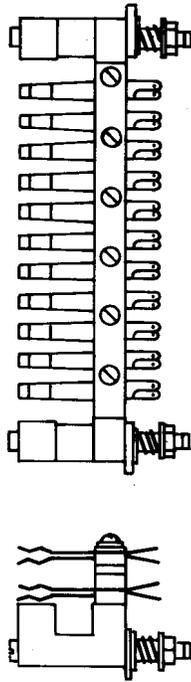

Fig. 25—496A Jack
2.20 496A: This multicontact jack (Fig. 25) is designed for flexible mounting. This jack is equipped with 33 pairs of contact springs. The contact springs are insulated from each other. This jack is provided with guide holes for locating the pins on the plug assembly of the KS-13882, L3, perforator in order to line up the contact springs of the jack with the contacts of the plug. The 496A jack is used with the plug assembly of the KS-13882, L3, perforator of the accounting center for the automatic message accounting system.